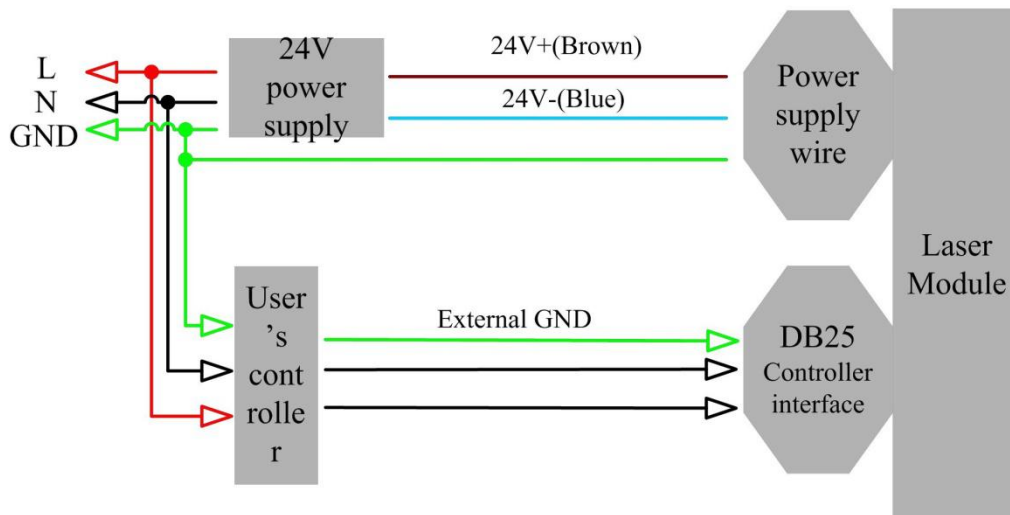

Figure 2.3 Wiring diagram of recommended electrical connection and power supply
- 3) Make sure that the interface of the external controller matches the laser and the control cable is well connected to the laser's interface. The recommended electrical connection is shown in figure 2.3.